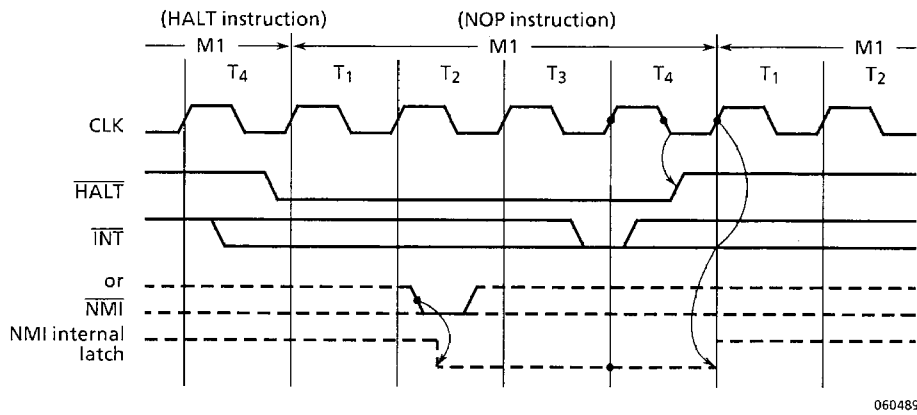

Figure 3.18 Timing of Clearing Halt State Caused by Interrupt Acknowledge
The halt state is cleared when an interrupt is accepted or the  $\overline{\text{RESET}}$  signal is set to "0" to reset the MPU. Figure 3.18 shows the halt state clear operation by interrupt acknowledge. An interrupt is sampled on the rising edge of the last clock (clock state T4) of the NOP instruction. A maskable interrupt can be accepted when the  $\overline{\text{INT}}$  signal is "0". A non-maskable interrupt is accepted when the internal NMI flip-flop which is set on the falling edge of the  $\overline{\text{NMI}}$  signal is set to "1". However, it is required that the interrupt enable flip-flop is set to "1" for a maskable interrupt to be accepted. The interrupt processing for the accepted interrupt starts from the next cycle.
For the reset operation, see (8) "Reset operation". Note that the  $\overline{\text{INT}}$  and  $\overline{\text{NMI}}$  signals are shown on the same diagram in Figures 3.18 and 3.19 for convenience.